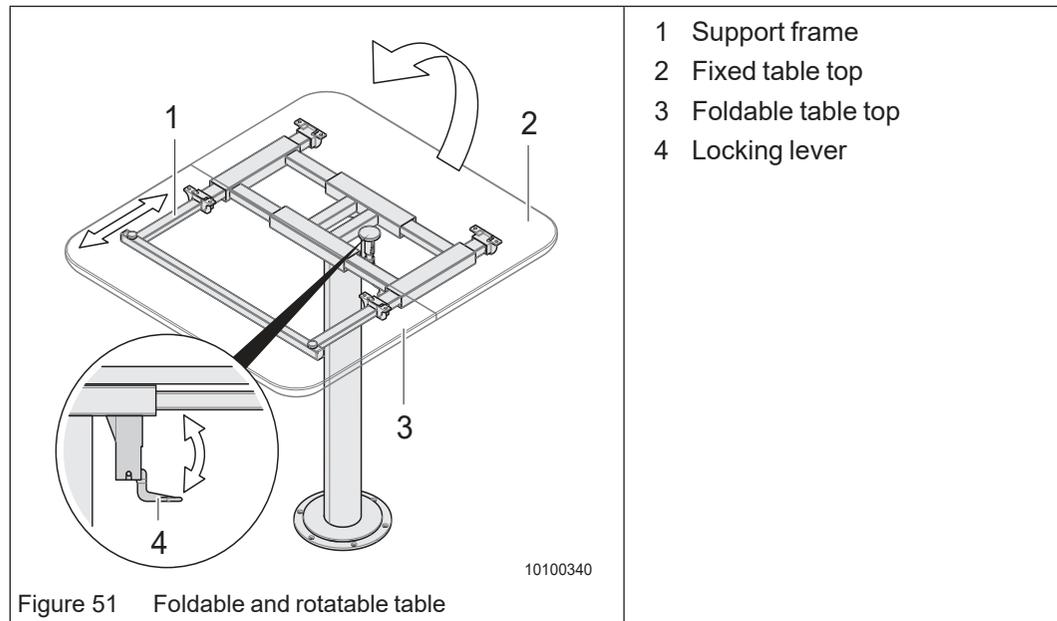

Figure 51 Folding and rotatable table
- ➔ Pull out the support frame (Figure 51/1).
- ➔ Fold down the foldable part of the table top (Figure 51/3).
- ➔ Push the support frame (Figure 51/1) back in.
- ➔ Fold down the locking lever (Figure 51/4).